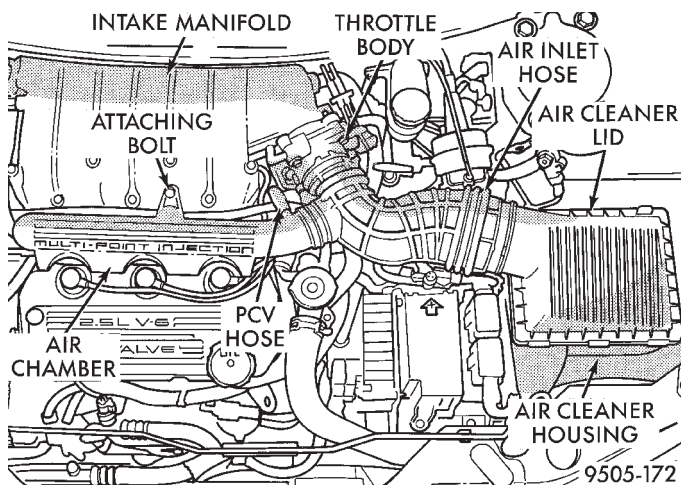
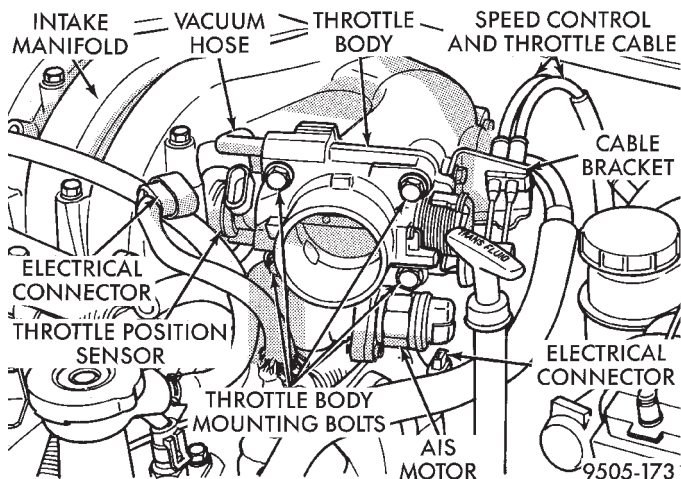

Fig. 105 Engine Air Intake System Components
Fig. 106 Throttle Body Attachment To Intake Manifold
(3) Remove the PCV hose (Fig. 105) from the air chamber located on the front of the intake manifold. Remove bolt (Fig. 105) attaching the air chamber to the intake manifold. Then unlatch lid of air cleaner from air cleaner housing and loosen clamp attaching air inlet hose to throttle body (Fig. 105). Remove the air cleaner lid, air inlet hose and air chamber (Fig. 105) as an assembly from the engine.
(4) Remove the throttle cable and if equipped the speed control cable from the throttle body (Fig. 106). Remove the vacuum hose (Fig. 106) from the throttle body. Remove the wiring harness connectors from AIS motor and the Throttle Position Sensor (Fig. 106) on the throttle body. Then, remove the 4 bolts (Fig. 106) attaching the throttle body to the intake manifold and remove it from intake manifold.
(5) Without removing cables from bracket, remove the throttle and speed control cable mounting bracket (Fig. 106) from the intake manifold.
(14) Install the throttle body and a **NEW** gasket on the intake manifold. Install the 4 throttle body attaching bolts (Fig. 106) and tighten to a torque of 22 N·m (200 in. lbs.).
(15) Install the vacuum hose (Fig. 106) on the throttle body. Install the wiring harness connectors on the AIS motor and the Throttle Position Sensor (Fig. 106) located on the throttle body.
(16) Install the mounting bracket for the throttle cable and speed control cable onto the intake manifold and securely tighten the mounting bolts.
(17) Install the throttle cable, and if equipped, the speed control cable on the cam of the throttle body assembly.
(18) Install the air cleaner lid, air inlet hose and air chamber (Fig. 105) as an assembly on the engine. Latch lid of air cleaner to air cleaner housing. Securely tighten the clamp attaching the air inlet hose to the throttle body (Fig. 105). Install and securely tighten the bolt attaching the air chamber to the intake manifold (Fig. 105).